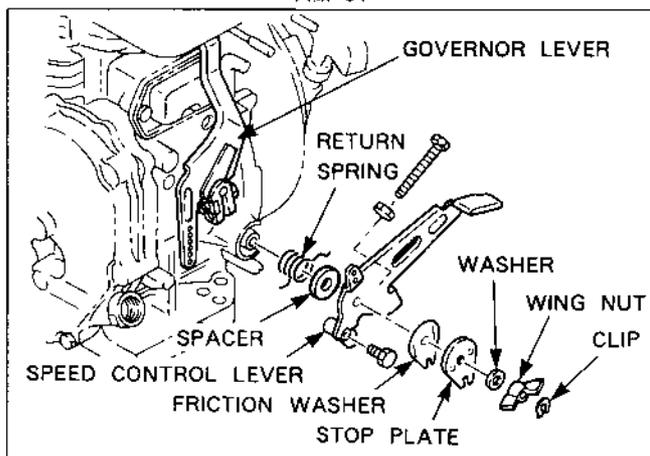

Fig. 58
- (2) Install speed control lever to crankcase with return spring, spacer, friction washer, wing nut, etc. as shown in Fig. 58.
- (3) Hook governor spring to proper holes of governor lever and speed control lever.